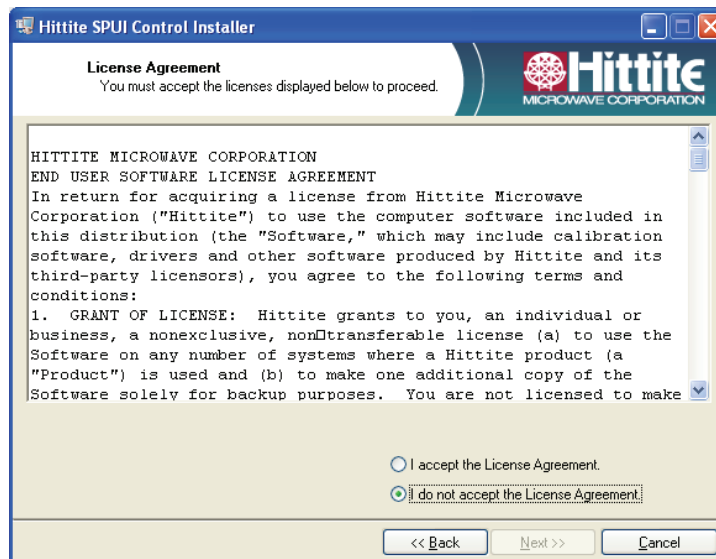

Figure 9. Hittite Microwave Corporation License Agreement.
5. The screen in Figure 9 will appear. Read through the Hittite Microwave Corporation licensing agreement and click the “I accept the License Agreement” to accept. Then click Next.